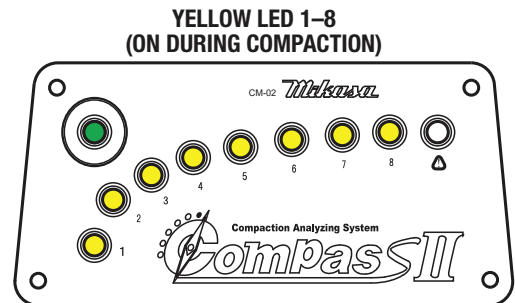

Figure 48. Sensor Panel Display (Compaction Progression)
- As compaction progresses, the rest of the yellow LEDs (2 through 8) will turn on. See Figure 48.